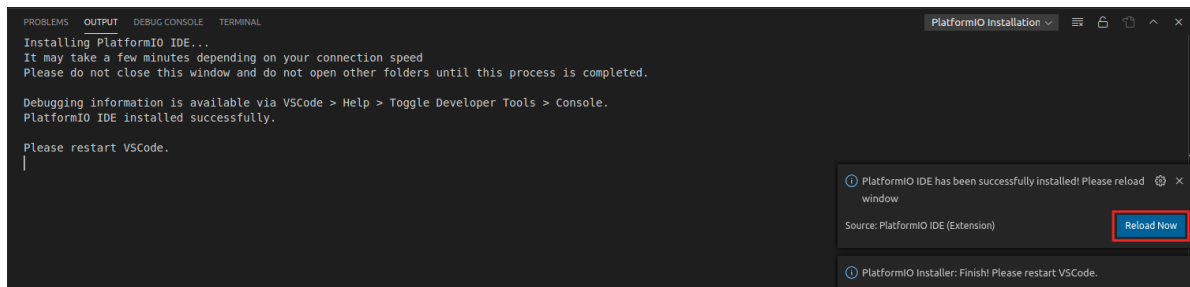

Figure 32. Reload Now after PlatformIO installs
- e. The OUTPUT window on the bottom will inform you about the installation process. Once finished, click “Reload Now” on the bottom right side window, and PlatformIO will be installed inside VSCode (see Figure 32).